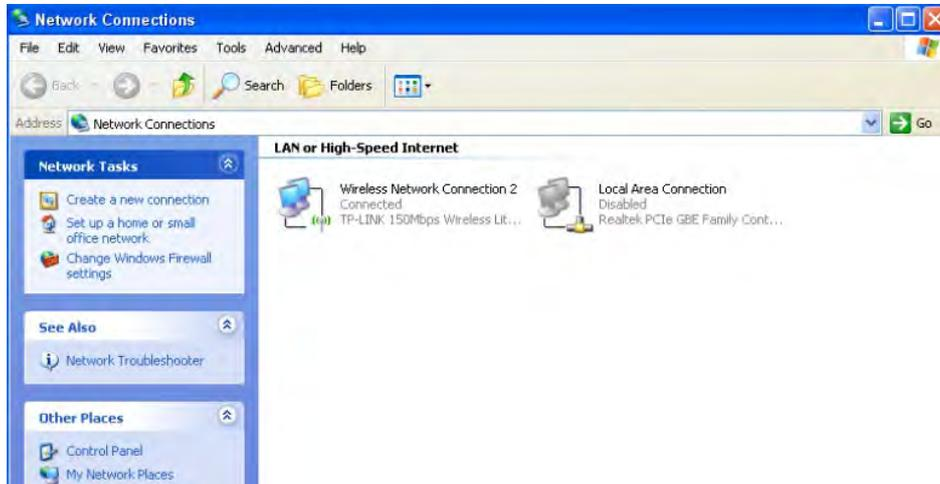
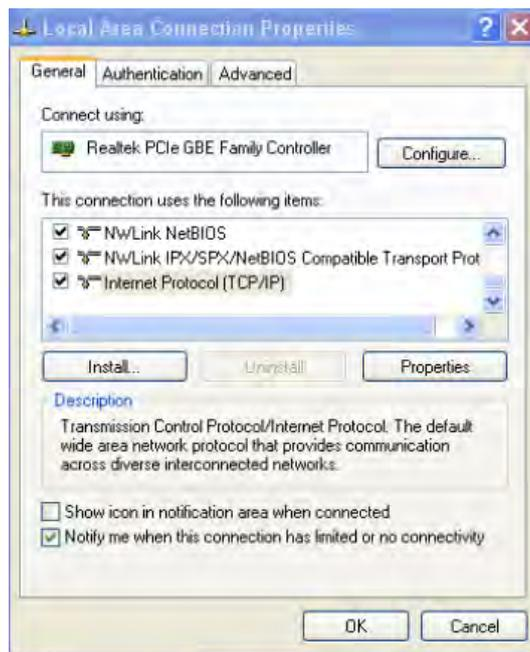
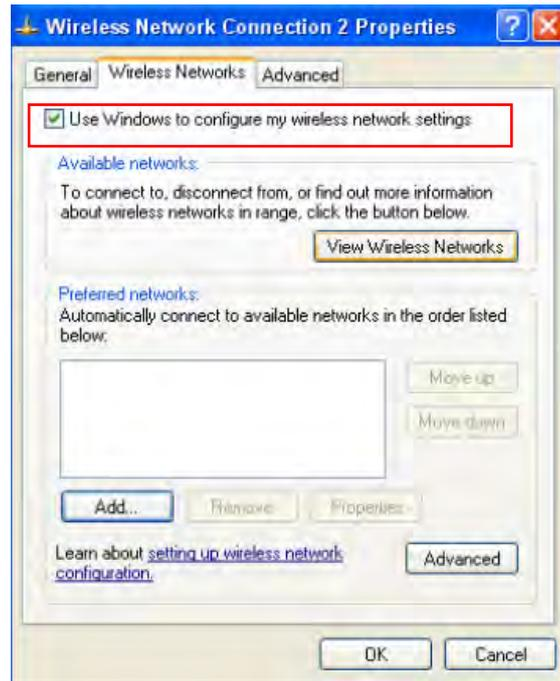

Fig. F-2 Network connection
Fig. F-3 Local area connection properties
Fig. F-5 Wireless network connection setup
- 3) You can see the **Network Connections** user interface in Fig. F-2. Roll the trackball onto the **Local Area Connection** icon and press on **T-Ball** to bring up the menu. Click on **Properties** to bring up the settings window, as shown in Fig. F-3.
- 1) After calling up the **Network Connections** interface, as indicated above (see Fig. F-2), roll the trackball onto the icon **Wireless Network Connection 2** and press **T-Ball** to bring up the menu. Click on **Properties** to bring up the settings window, as shown in Fig. F-3. Click on **Wireless network** (see Fig. F-5). Then choose **Use Windows to configure my wireless network settings**. To confirm, click on **OK**.